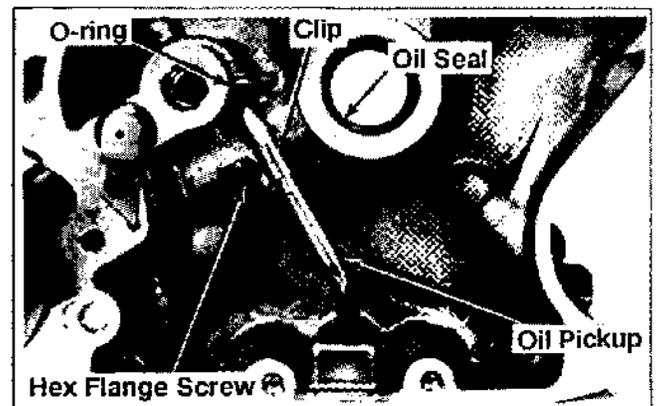

Figure 9-35. Removing Oil Seal And Pickup.
1. Remove the oil seal from the closure plate. See Figure 9-35.
3. Remove the hex socket screw, oil pressure relief bracket, relief valve body, piston, and spring. See Figures 9-35 and 9-36.